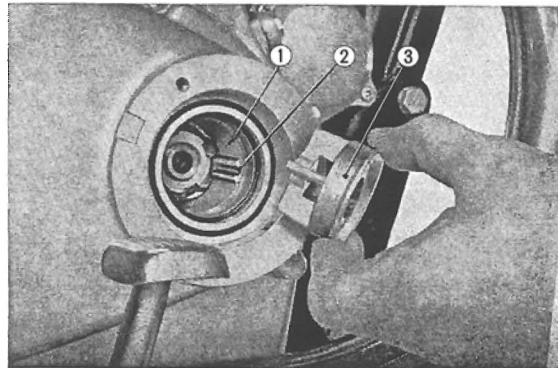

Fig. 6.17 Oil filter rotor cap installation
- (1) A little oil will come out when the oil filter cover is removed.
- (2) When reinstalling the rotor cap, the rotor cap vane should be matched to the groove on the inside wall of the rotor. (Fig. 6.17)
- (3) Make sure that the spring loaded oil guide metal is perfectly clean and free in the oil filter cover.